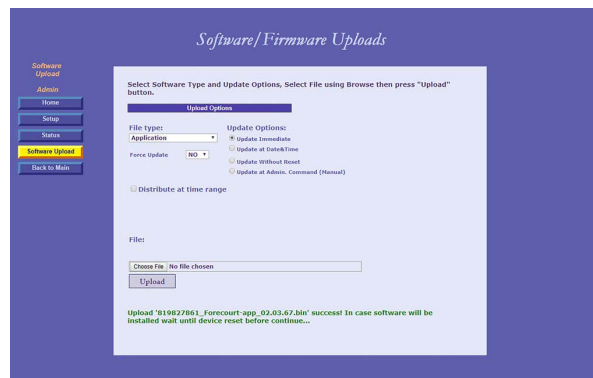

Figure 5-18 - Software Uploaded Successfully Message
6. Click **OK** to confirm and upload the file. The following message appears (see Figure 5-18):